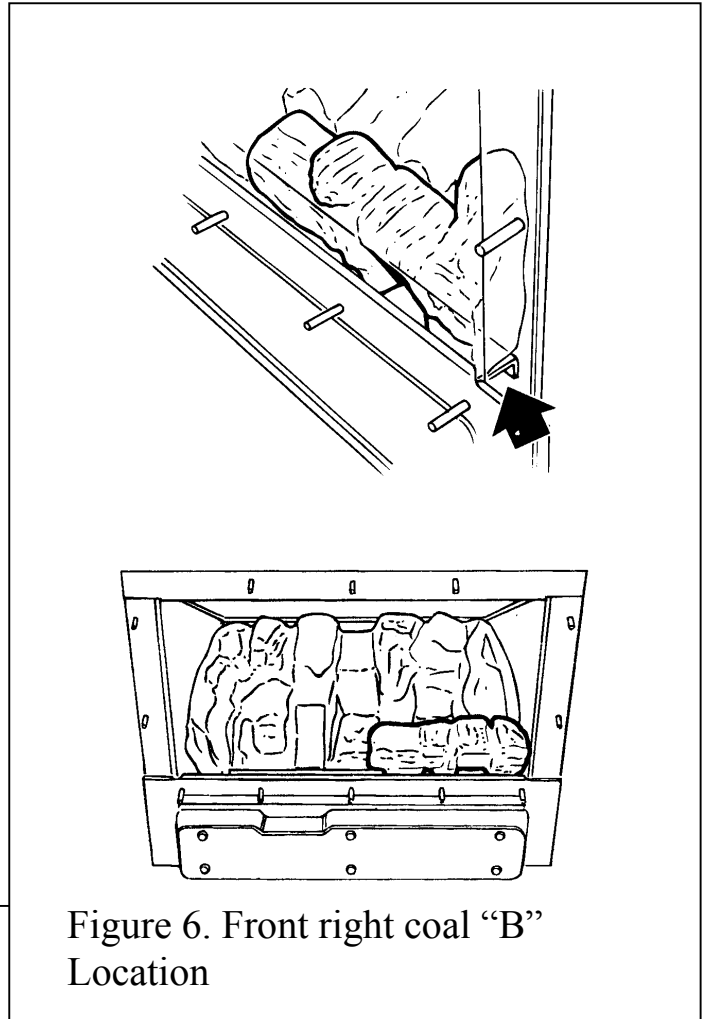

Figure 6. Front right coal "B" Location
3.3.2 Place the front right coal (embossed 'B' underneath) in position. The flat bottom front face of the coal should rest on the metal ledge immediately behind the bottom front of the firebox opening. Slide the coal to the right side. See figure 6.